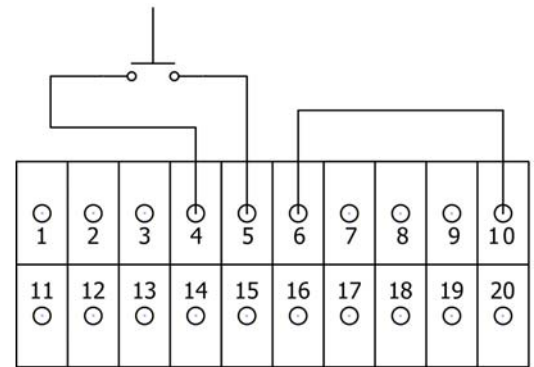

Figure 18. 12VDC Internal
- Connect the green jumper wire (supplied) to terminals 6 & 10 (see Figure 18).